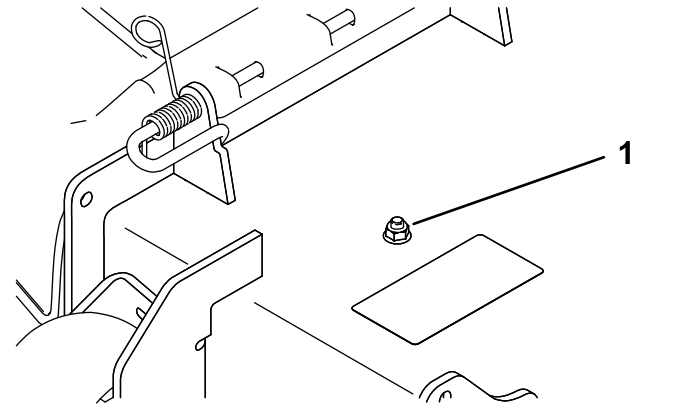
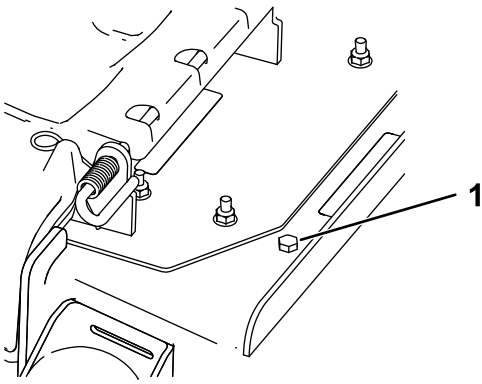

Figure 8
Figure 9
1. Remove the nut and bolt from the location shown in Figure 8 or Figure 9.